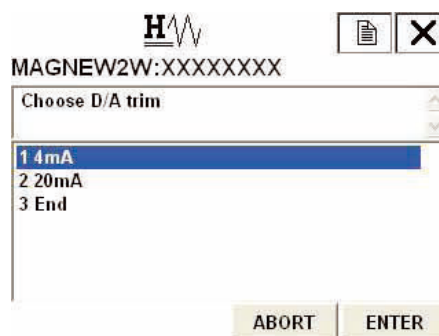

Figure 7-44
2. Once the display as shown in Figure 7-44 appears, move the arrow key up or down to select a current output to adjust, and then press F4 (ENTER). This time, select 4 mA.